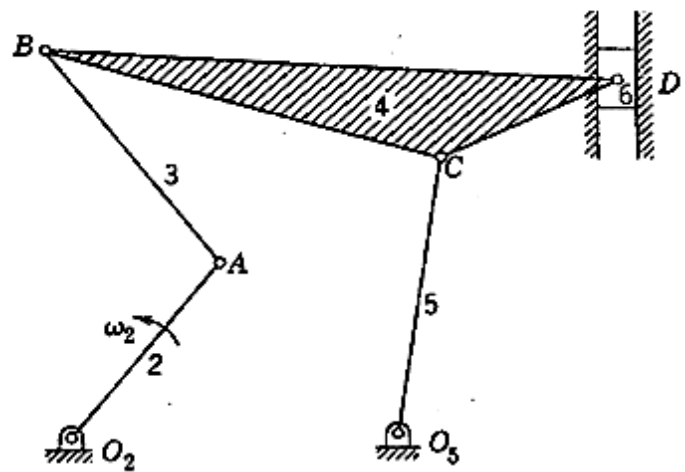

Fig.Q.6A
- 6A.** For the Watt ‘walking beam’ mechanism shown in **Fig.Q.6A**, dimensions  $O_2O_5 = 30$  mm,  $BC = 37$  mm,  $CD = 17$  mm,  $BD = 52$  mm. Dimensions of link 2, 3 & 5 are 21 mm, 25 mm & 25 mm respectively. Angles  $O_5O_2A = 60^\circ$ ,  $CO_5O_2 = 100^\circ$ . If  $\omega_2 = 10$  rad/s, determine the velocity of slider (link 6). Use auxiliary point method. Also show two auxiliary points. **(08)**